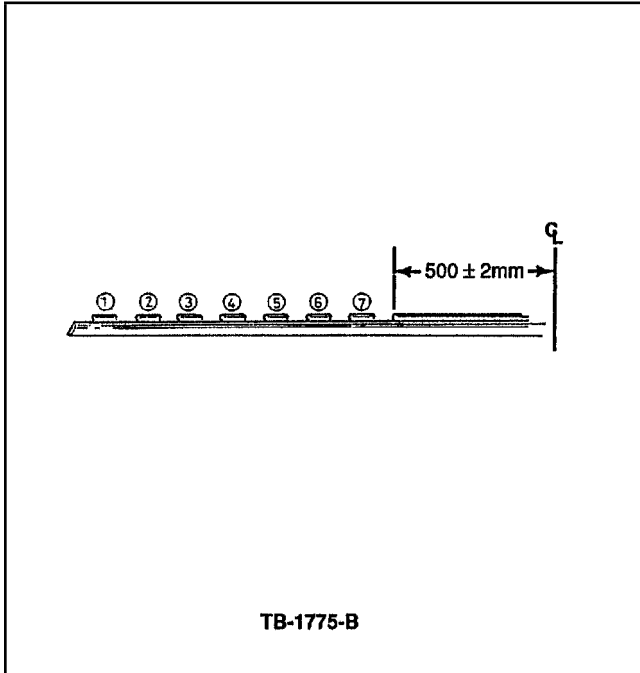

Figure 6 - Article 90-22-4
1. Place the replacement insert moulding centrally on the bumper, Figure 6.